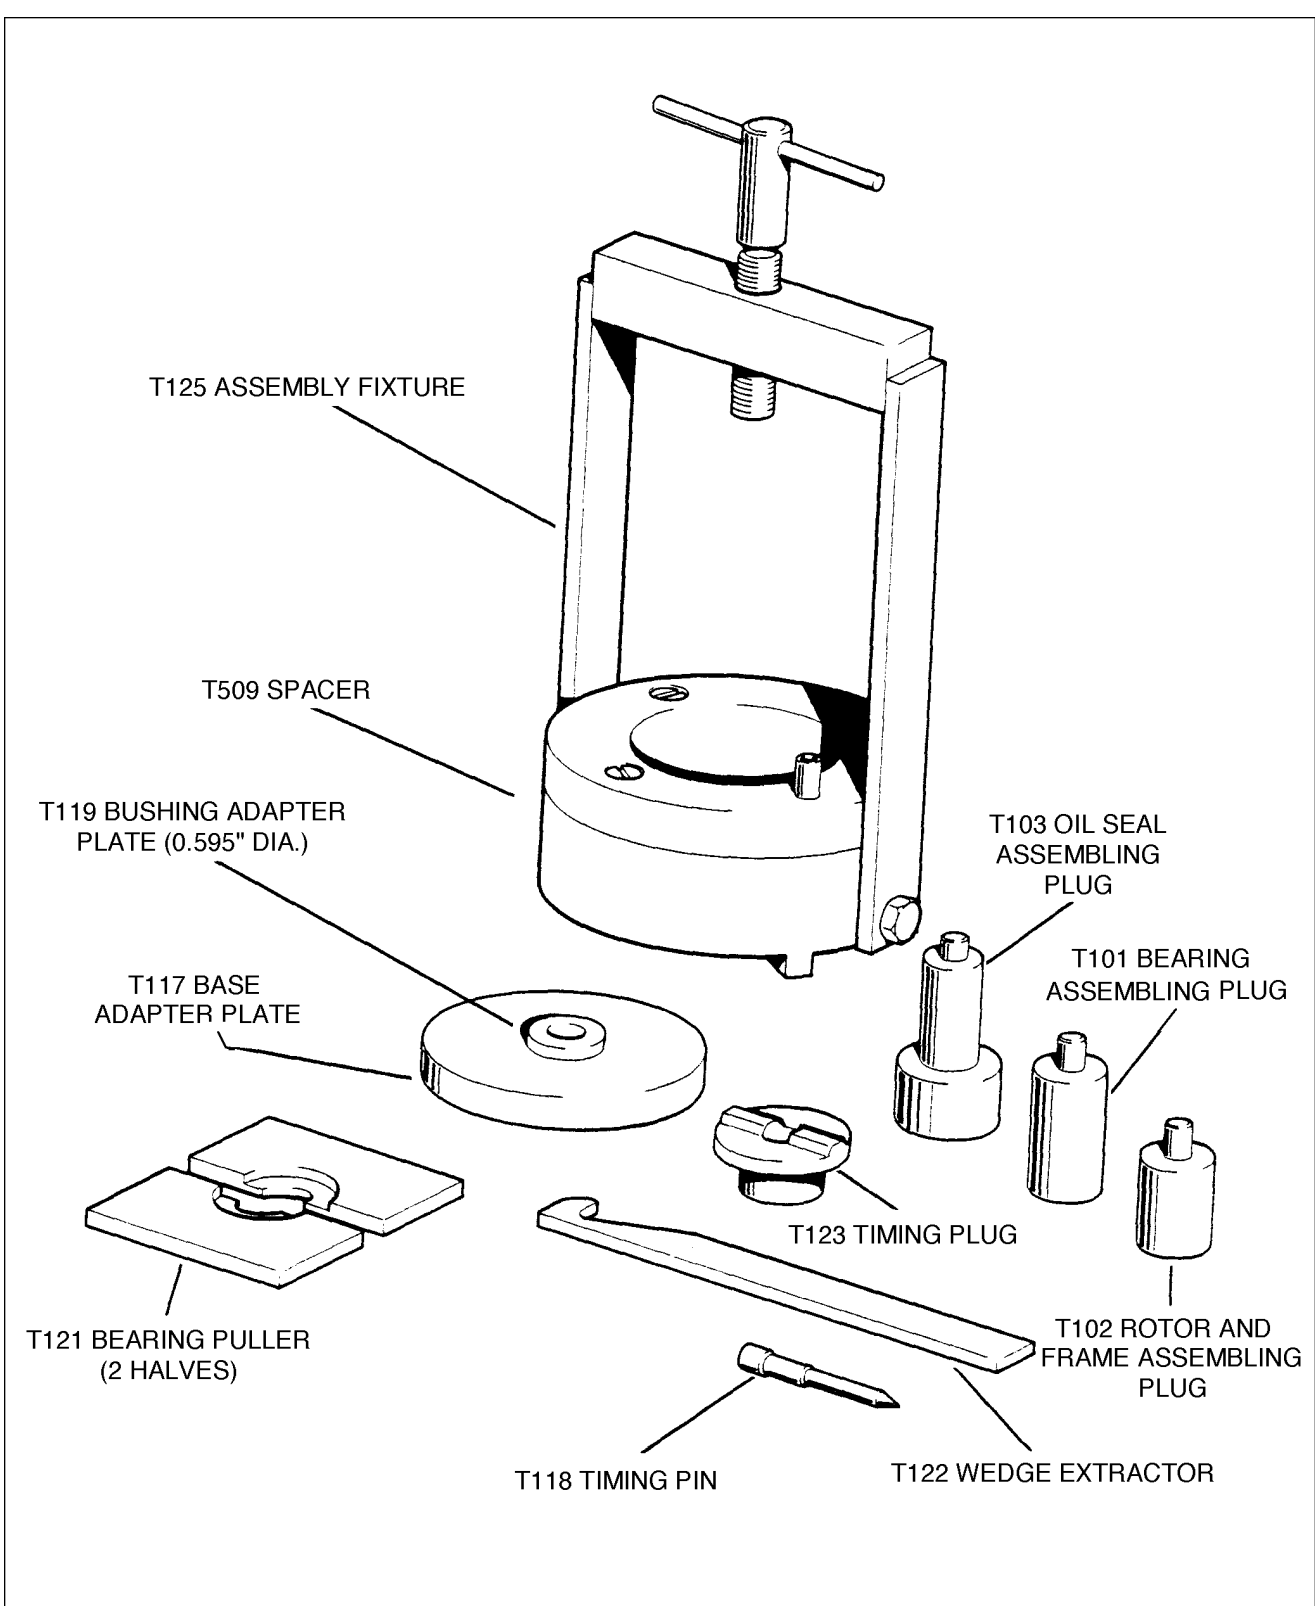

Figure 8-8. T-100 Assembly and Timing Tool Kit
*Although not required use of the slick T-100 assembly and timing kit is strongly recommended. (Refer to Figure 8-8.) The tools contained in this kit will greatly facilitate magneto disassembly/assembly and help prevent damage to pans.*
- a. Insert the T-118 timing pin (refer to Figure 8-8) in the L or R hole in the distributor block (depending on rotation of the magneto).